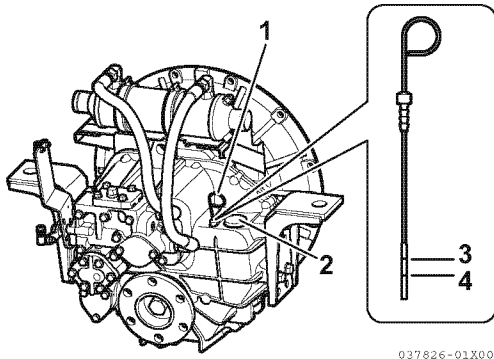

Figure 8
2. Remove the filler cap (**Figure 8, (2)**) at the top of the housing.
3. Remove dipstick (**Figure 8, (1)**) and wipe with clean cloth.
5. Remove dipstick. The oil level should be between upper (**Figure 8, (3)**) and lower (**Figure 8, (4)**) lines on the dipstick.
3. Fill with oil to the upper limit on the dipstick (**Figure 8, (3)**). *See Marine Gear Oil Specifications on page 33.*